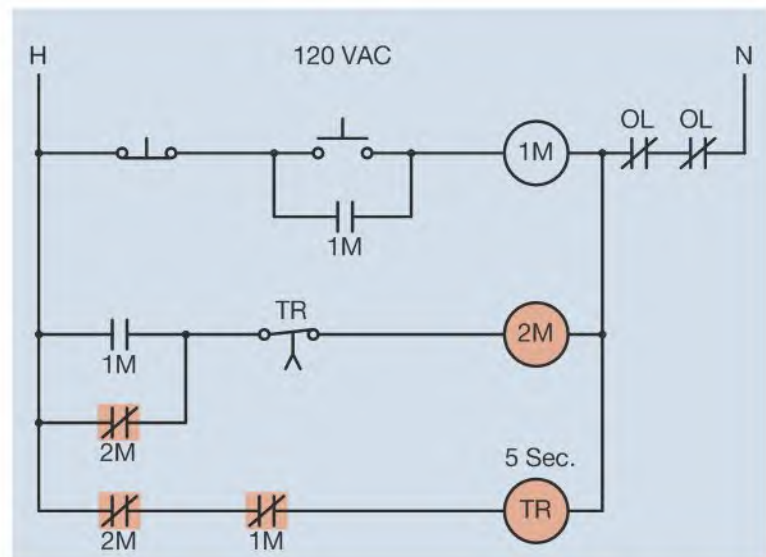

Figure 11-26 Starter 1M de-energizes causing timer TR to begin its time sequence.
3. When the start button is pressed, coil 1M de-energizes and all 1M contacts return to their normal position, Figure 11-26. A circuit path is maintained to starter coil 2M by the closed 2M contact connected in parallel with the now open 1M contact.